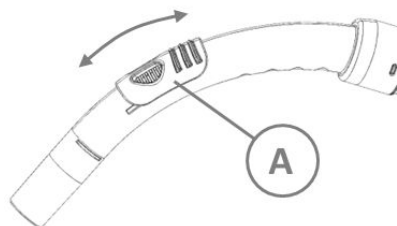

Figure 4
8. See figure 4. Adjust the suction power by moving the sliding valve (A) back and forth with your finger tip. The suction power is highest when the sliding valve is closed and lowest when all open.